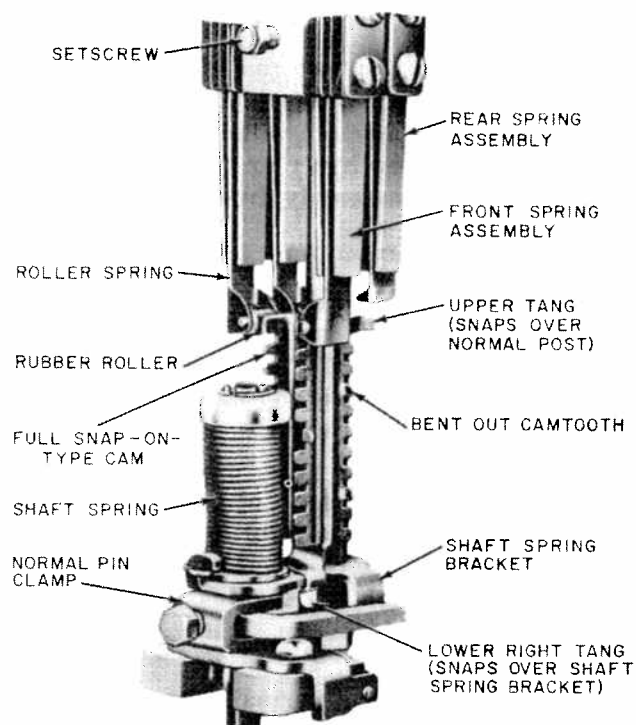
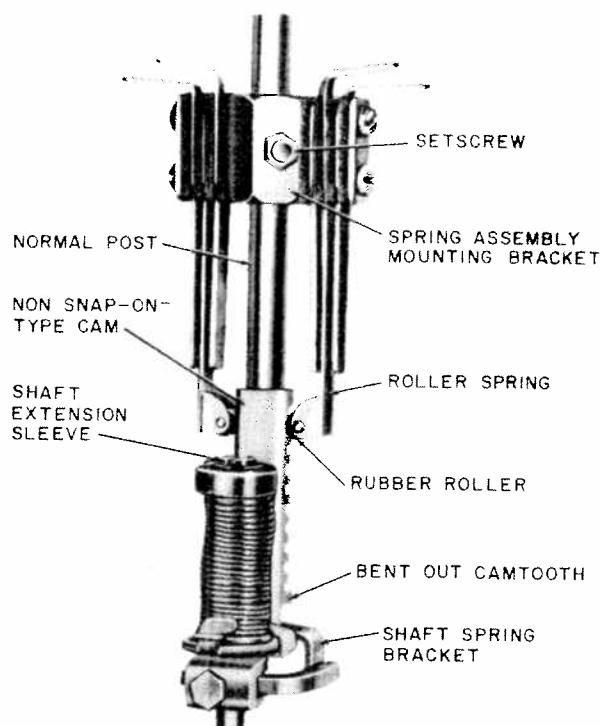
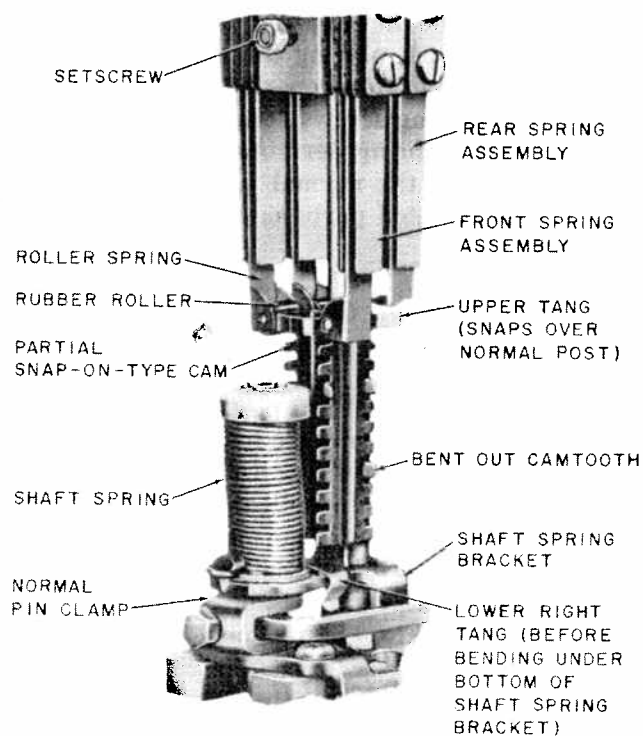

Fig. 11 — Normal Post Spring Assembly Having Rubber Rollers Operated by Full Snap-On-Type Cam
Fig. 13 — Normal Post Spring Assembly Having Rubber Rollers Operated by Nonsnap-On-Type Cam (single cam illustrated)
Fig. 12 — Normal Post Spring Assembly Having Rubber Rollers Operated by Partial Snap-On-Type Cam
Normal Post Spring Assembly With Cam per Fig. 11, 12, 13, and 14
(1) To replace the normal post spring assembly on a switch equipped with a helical shaft spring assembly, it is necessary to replace the shaft spring bracket, normal pin, and normal post spring assembly, and to add a normal post cam in accordance with Fig. 5. Full-, partial-, or nonsnap-on-type cams shown in Fig. 11 to 13 may be used.
(2) Tag and disconnect the leads to the normal post spring assembly. Loosen the normal post spring assembly clamping screw with the 3-inch C screwdriver or the 555A wrench. Lift the spring assembly from the top of the normal post.
(4) If the camteeth are not bent out to operate the normal post springs at the proper levels, bend out the camteeth corresponding to the levels at which the springs are to operate as covered in 3.14(5).
(5) Then mount the normal post cam as covered in 3.14(7) if it is a full snap-on-type cam per Fig. 11; as covered in 3.14(8) if it is a partial snap-on-type cam per Fig. 12; or as covered in 3.14(9) if it is a nonsnap-on-type cam per Fig. 13 and 14.
(6) Mount the new spring assembly on the normal post, placing the assembly so that the springs operate properly. Tighten the assembly mounting screws securely. Connect the leads to the spring terminals. Check all requirements on the normal post spring assembly and associated parts as covered in Section 030-705-703.
(1) To replace a normal post spring assembly on a switch having a cup-type shaft spring assembly, it is necessary to replace the cup spring assembly by a helical shaft spring assembly and to add a normal post cam and normal post spring assembly in accordance with Fig. 5. Full-, partial-, or nonsnap-on-type cam shown in Fig. 11 to 13 may be used.
(2) Tag and disconnect the leads connected to the normal post springs. Remove the assembly as covered in 3.10.
(3) Remove the cup spring assembly, the shaft spring bracket, the normal pin, and the
(4) If the switch is equipped with a normal post collar, remove and discard it.
(5) Mount the shaft extension sleeve, normal pin clamp, normal pin, shaft spring bracket, and shaft spring in accordance with Section 030-705-802.
(6) If the camteeth are not bent out to operate the normal post springs at the proper levels, bend out the camteeth corresponding to the levels at which the springs are to operate as covered in 3.14(5).
(7) Then mount the normal post cam as covered in 3.14(7) if it is a full snap-on-type cam per Fig. 11; as covered in 3.14(8) if it is a partial snap-on-type cam per Fig. 12; or as covered in 3.14(9) if it is a non-snap-on-type cam per Fig. 13 and 14.
(8) Mount the new spring assembly on the normal post, placing the assembly so that the springs operate properly. Tighten the assembling mounting screw securely. Connect the leads to the spring terminals. Check all requirements on the normal post spring assembly and associated parts as covered in Section 030-705-703.
(1) To replace a normal post cam, remove the cam as covered in (2) if it is a full snap-on-type cam per Fig. 11; as covered in (3) if it is a partial snap-on-type cam per Fig. 12; or as covered in (4) if it is a nonsnap-on-type cam per Fig. 13 and 14. If the proper teeth on the replacing cam have not been bent out, bend out as covered in (5) the teeth corresponding to the levels at which the normal post springs are to be operated. Mount the replacing cam as covered in (7) if it is a full snap-on-type cam per Fig. 11; as covered in (8) if it is a partial snap-on-type cam per Fig. 12; or as covered in (9) if it is a nonsnap-on-type cam per Fig. 13 and 14.
(2) Full Snap-On-Type Cam per Fig. 11
(3) *Partial Snap-On-Type Cam per Fig. 12*
(4) *Nonsnap-On-Type Cam per Fig. 13 and 14*
(6) **General:** If the proper teeth have not been bent out, bend out as covered in (5) teeth corresponding to the levels at which the normal post springs are to be operated. Then proceed as covered in (7), (8), or (9).
(7) *Full Snap-On-Type Cam per Fig. 11*
(8) *Partial Snap-On-Type Cam per Fig. 12*
(9) Nonsnap-On-Type Cam per Fig. 13 and 14